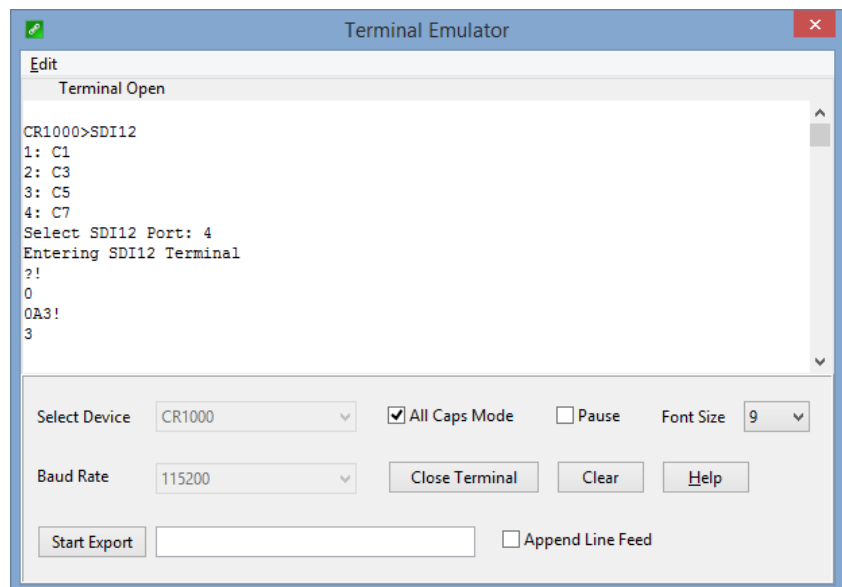

Figure D-1. CR1000 example of using the SDI-12 transparent mode to change the SDI-12 address from 0 to 3. Sensor is connected to control port 1.
10. To change the SDI-12 address, type **aAb!**, where **a** is the current address from the above step and **b** is the new address (see Figure D-1). Press Enter. The sensor changes its address and responds with the new address.